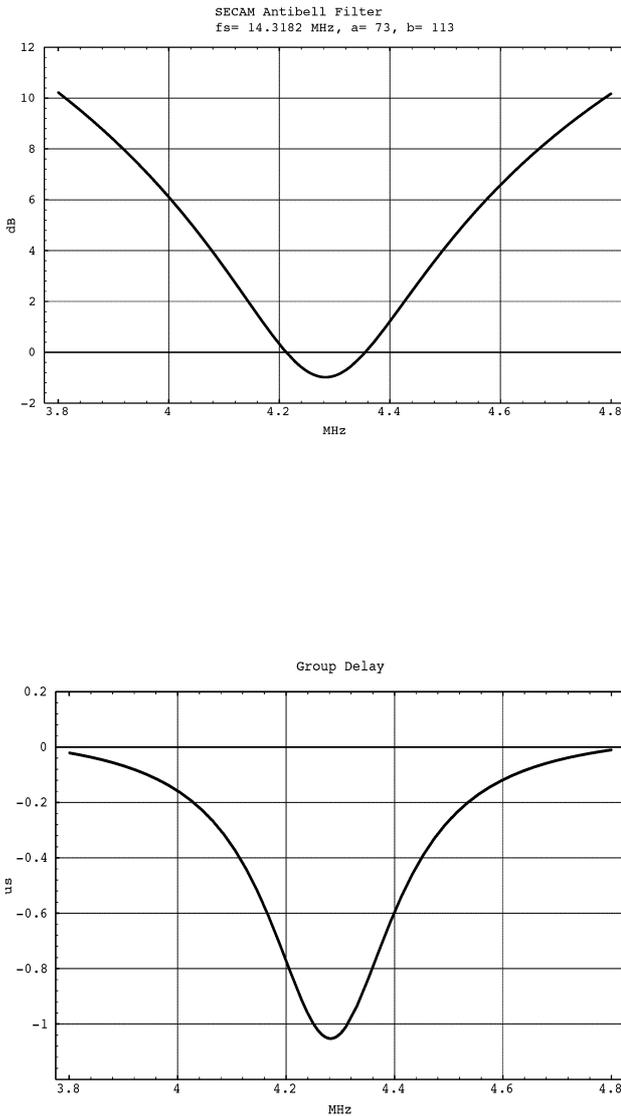

Fig. 2-5: Frequency Response and Group Delay of Secam Antibell Filter
The SECAM antibell filter is a transversal filter with two coefficients. The description of the transfer function can be found in the item 4.1.6 'Programming'. The correct center frequency can be adjusted with a main clock frequency above 26 MHz. The typical amplitude and group delay transfer characteristics are shown in figure 2-5. The filter runs with half the main clock frequency.